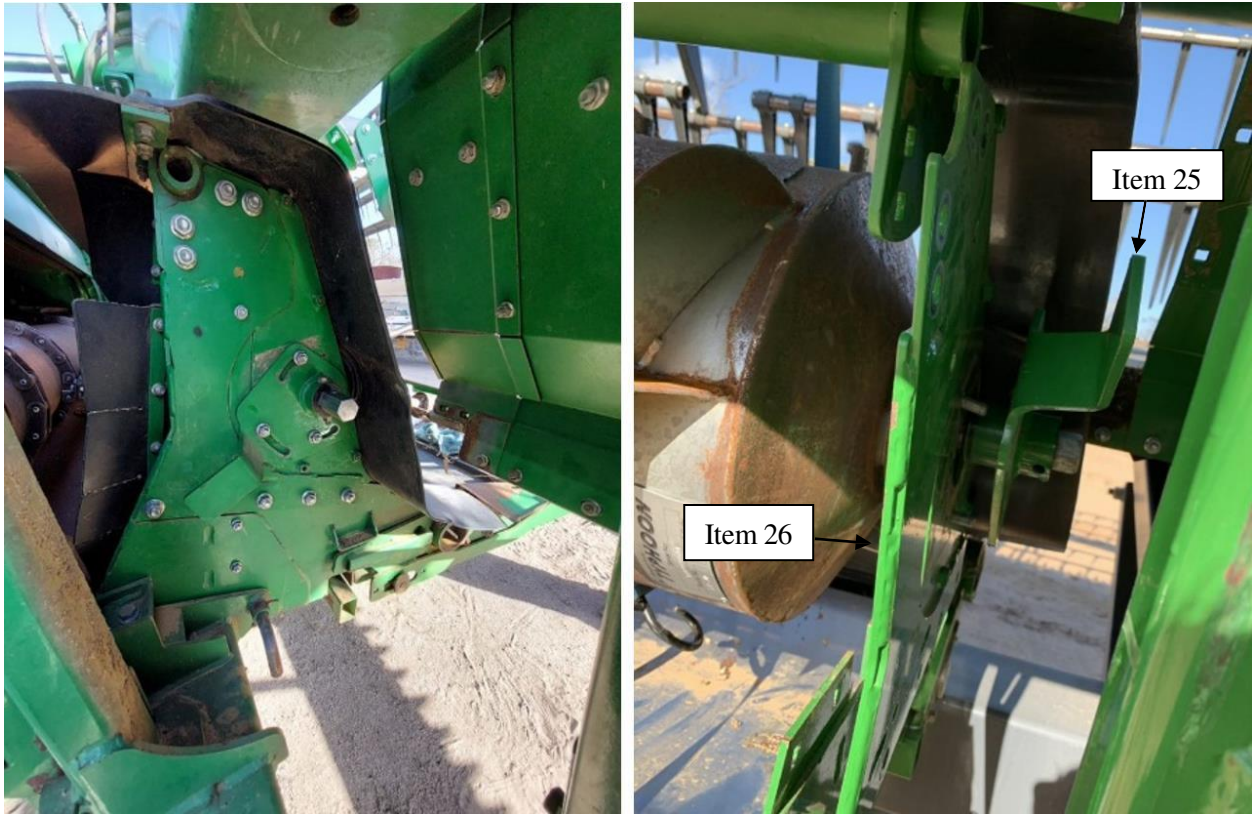

Figure 4: Removal of brackets securing the idle side.
Item 26 can now be disassembled by removing the bolts securing the bracket on the idle side as shown in Figure 4. Also remove the bolt that secures the idle shaft from moving axially (item 25).
Note: You may need to use a penetrating lubricant to facilitate the removal of item 25 off the shaft (right image - Figure 4).